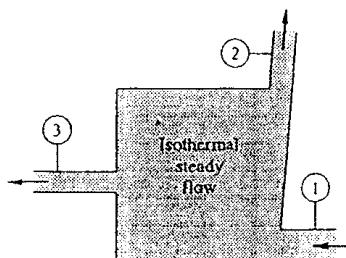

Fig. P3.126
**3.126** Given is steady isothermal flow of water at 20°C through the device in Fig. P3.126. Heat-transfer, gravity, and temperature effects are negligible. Known data are  $D_1 = 9 \text{ cm}$ ,  $Q_1 = 220 \text{ m}^3/\text{h}$ ,  $p_1 = 150 \text{ kPa}$ ,  $D_2 = 7 \text{ cm}$ ,  $Q_2 = 100 \text{ m}^3/\text{h}$ ,  $p_2 = 225 \text{ kPa}$ ,  $D_3 = 4 \text{ cm}$ , and  $p_3 = 265 \text{ kPa}$ . Compute the rate of shaft work done for this device and its direction.